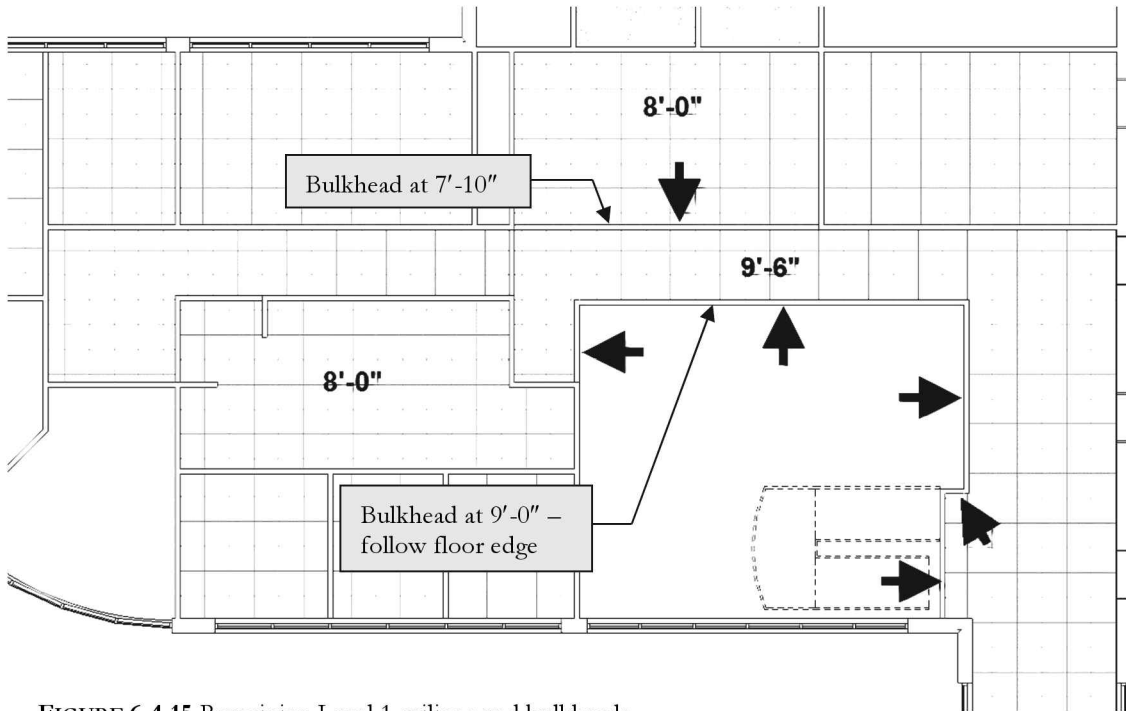

FIGURE 6-4.15 Remaining Level 1 ceilings and bulkheads
34. Place the remaining bulkheads and 2'x2' ACT ceilings per the image below; note the ceiling and bulkhead heights vary (Figure 6-4.15).